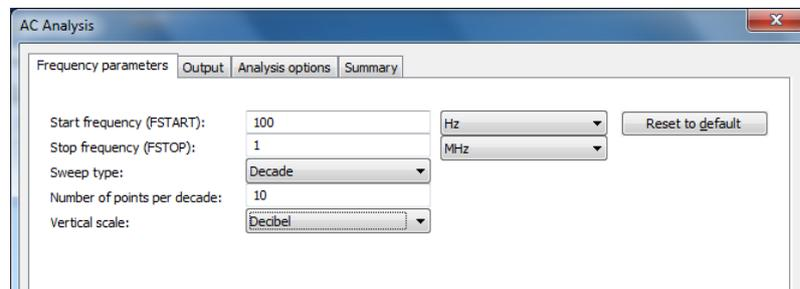

Figure 8
- A frequency domain simulation provides data about the frequency response of the circuit. First the analysis options must be set, so start from the Multisim main menu and select **Simulate > Analyses > AC Analysis > Frequency parameters** This should open a dialog box as shown in figure 8. Set **Start frequency: 100 Hz, Stop frequency 1 MHz, sweep type Decade, number of points per decade: 10, Vertical scale: Decibel** as shown. Then click on **OK**.